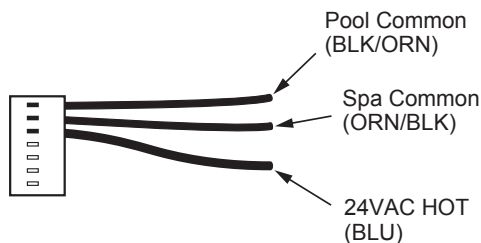

Figure 55. 7-Pin Remote Interface Harness
- On the "Remote Interface Harness", connect the BLUE wire to one side of the "REMOTE" switch and connect the other side to either the ORANGE/BLACK wire for "SPA" operation or the BLACK/ORANGE wire for "POOL" operation. See **Figure 55**.
- On the "Remote Interface Harness" connect the BLUE wire to one side of the "REMOTE" switch and connect the ORANGE/BLACK wire for "SPA" operation and the BLACK/ORANGE wire for the "POOL" operation. See **Figure 55**.